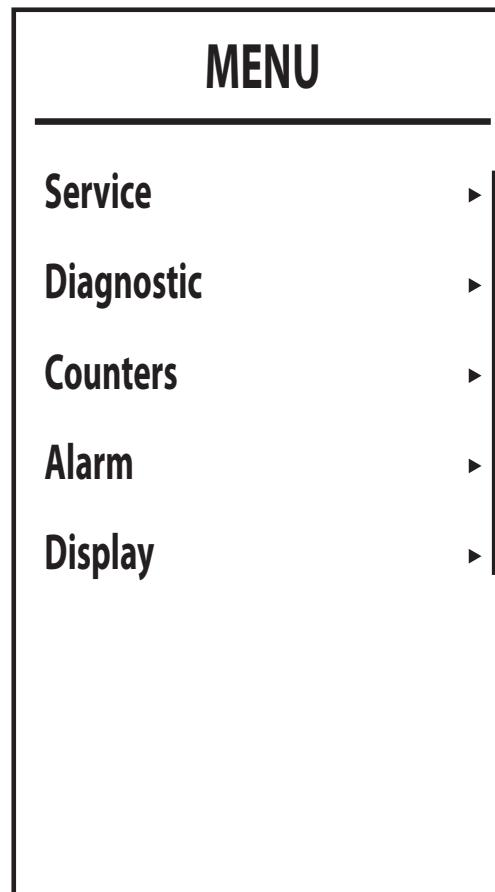

fig. 16- Main menu
Press the button (2) to display the **main menu** of the boiler [**MENU**] shown in fig. 16.